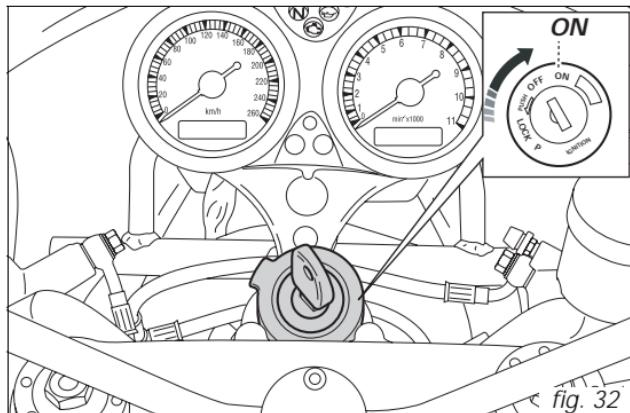

fig. 32
- 1) Move the ignition key to **ON** (fig. 32). Make sure both the green light **N** and the red light **☛** on the instrument panel come on.